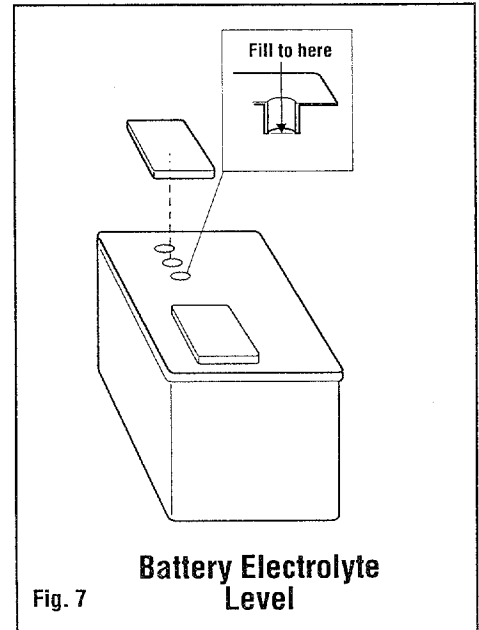

Fig. 7
3. Fill each cell in battery with electrolyte as shown in Fig. 7. **DO NOT OVERFILL!** Read and follow instructions provided with electrolyte for proper electrolyte package handling instructions.